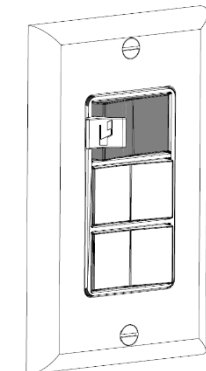

Fig. 17
4. The final installed position should look like figure 17.